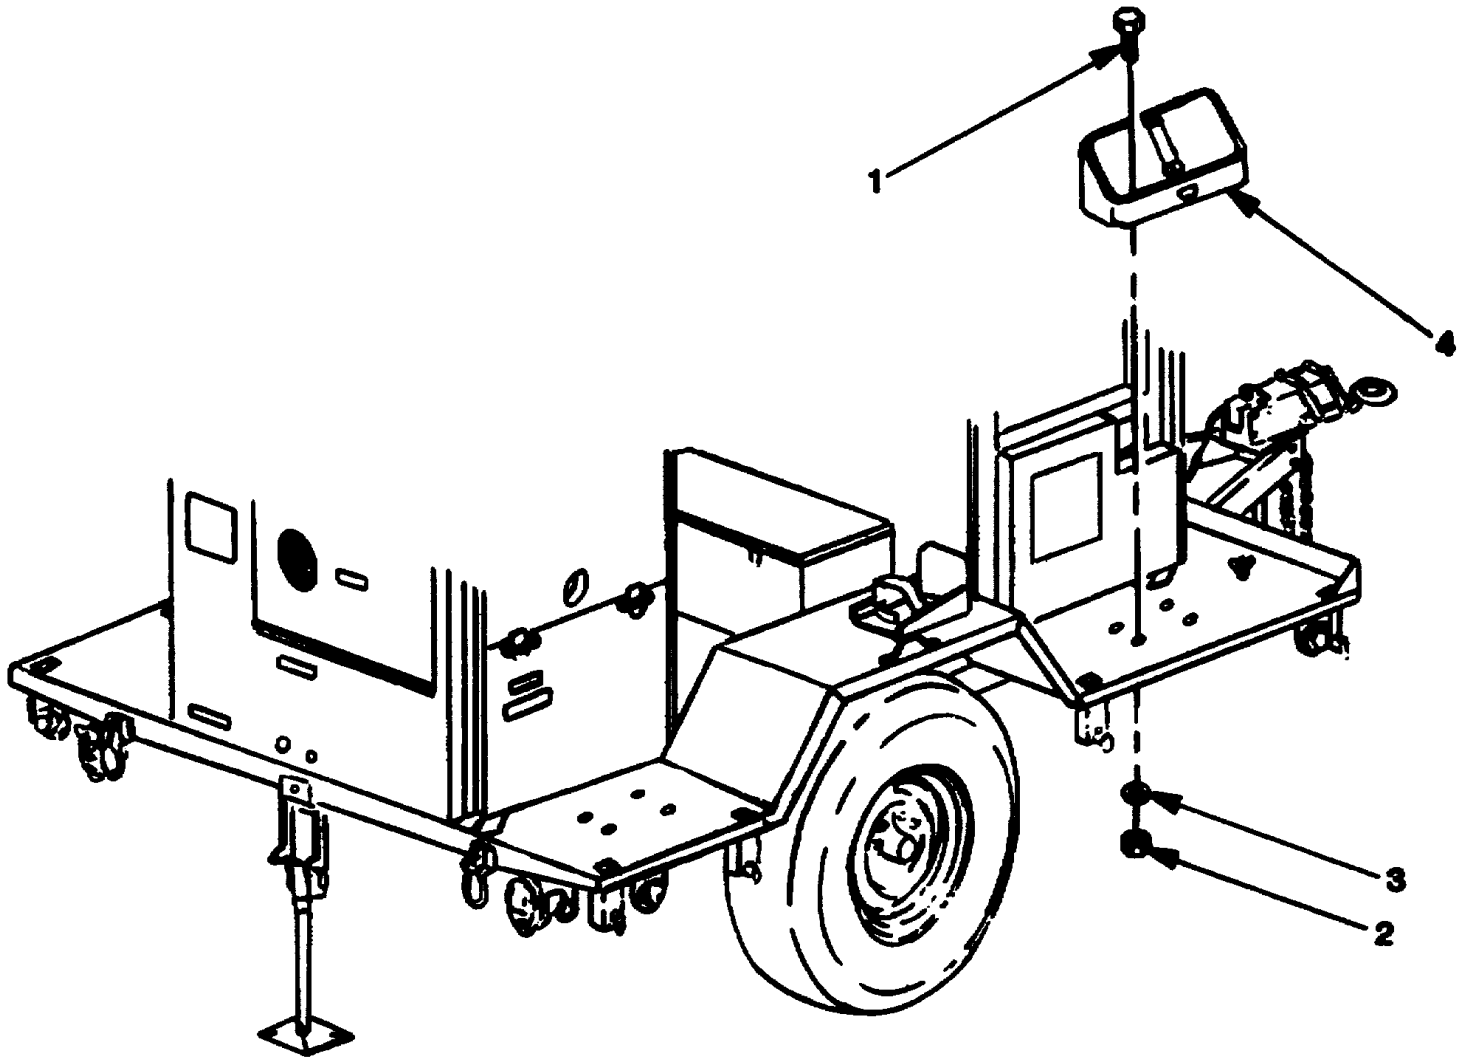

Figure 4-14. Fuel Can Bracket Replacement.
- (1) Remove four screws (1, figure 4-14), nuts (2), and flat washers (3) securing bracket (4) to fender extension (AN/MJQ-32) or bed (AN/MJQ-33).
- (2) Remove fuel can bracket (4) from fender extension or bed.